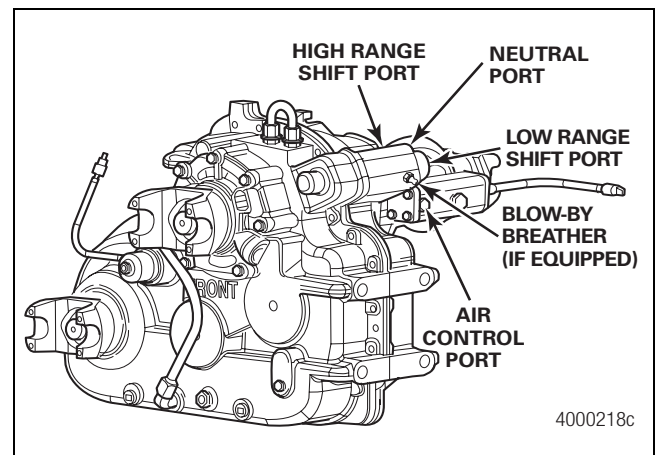

Figure 6.30
4. Apply 60 psi (4.14 bar) or greater of air pressure to the high-range shaft air port. Figure 6.30.
7. Apply 60 psi (4.14 bar) or greater of air pressure to the low-range shaft cylinder air port. Figure 6.30.
10. For PTO-equipped cases, apply 60 psi (4.14 bar) or greater of air pressure to the neutral shift location. Figure 6.30.